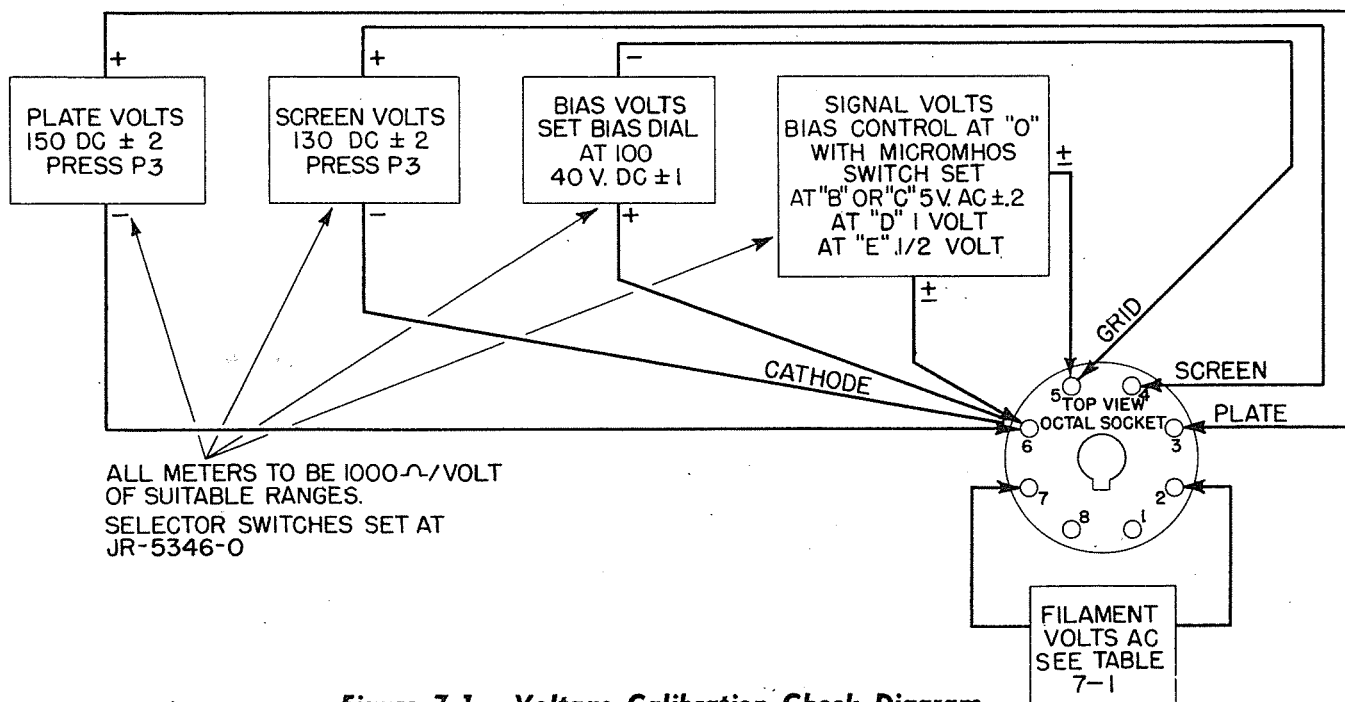

Figure 7-1. Voltage Calibration Check Diagram
Voltage test must be made with a multi-meter, or individual meters of 1000 ohms per volt sensitivity having suitable ranges of ac and dc connected as illustrated by figure 7-1. If the voltages are not in accordance with the following paragraphs 9a(2) through 9a(7), refer to paragraph 10 and Table 7-3 of this section for probable causes.
(a) Connect the positive (+) terminal of the voltmeter to contact No. 3 of the OCTAL test socket, X110, and the negative (-) terminal to contact No. 6 of the same socket. (See figure 7-1).
(a) Connect the positive (+) terminal of the voltmeter to contact No. 4 of the OCTAL test socket X110, and the negative (-) terminal to contact No. 6. Set BIAS control to zero. (See figure 7-1).
(b) Connect the positive (+) terminal of the voltmeter to contact No. 6 of the OCTAL test socket X110 and the negative (-) terminal to the No. 5 contact. (See figure 7-1).
(b) Connect the terminals of the ac voltmeter to contacts 5 and 6 of the OCTAL test socket X110. (See figure 7-1).
(1) Turn on the equipment and set all controls in accordance with paragraph 9 of this section.
(2) Connect a voltmeter between pins 5 and 6 of OCTAL socket X111 as illustrated by figure 7-1.
(3) Set BIAS control knob at 100.
(4) Adjust slider "A" of R132 until the meter reads 40 volts dc.
(5) Connect a voltmeter between pins 4 and 6 of OCTAL socket as in figure 7-1.
(6) Press buttons P3 and P2 and adjust slider "B" of R132 until the meter reads 56 volts dc.
(7) Tighten the slider screws and recheck the voltages.